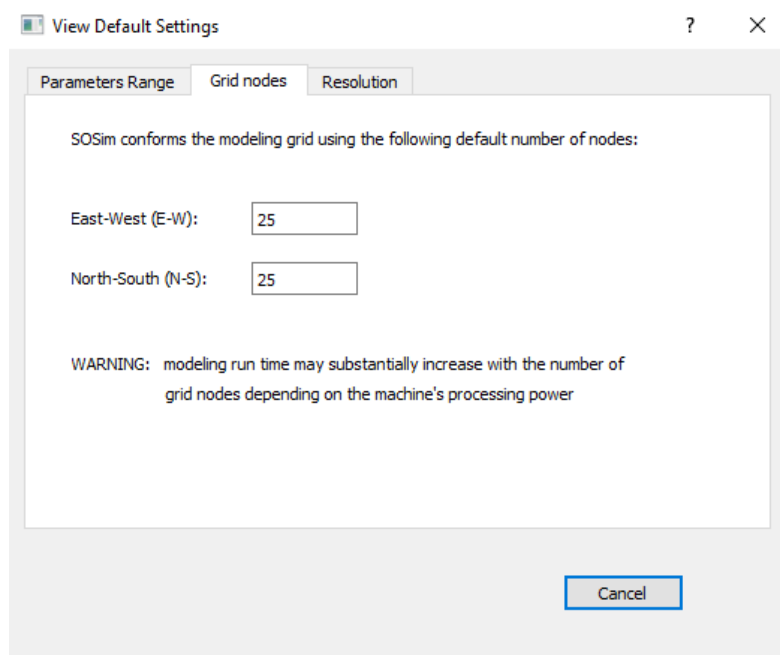

Figure 2.13. Modeling Default Setting prompt in the GUI.
- '*View Default Settings*': To view the default input, go to the '*Options*' menu of SOSim and click on '*Default Settings*'. Click each tab to view the default values that are used to run SOSim, as shown in Figure 2.13.